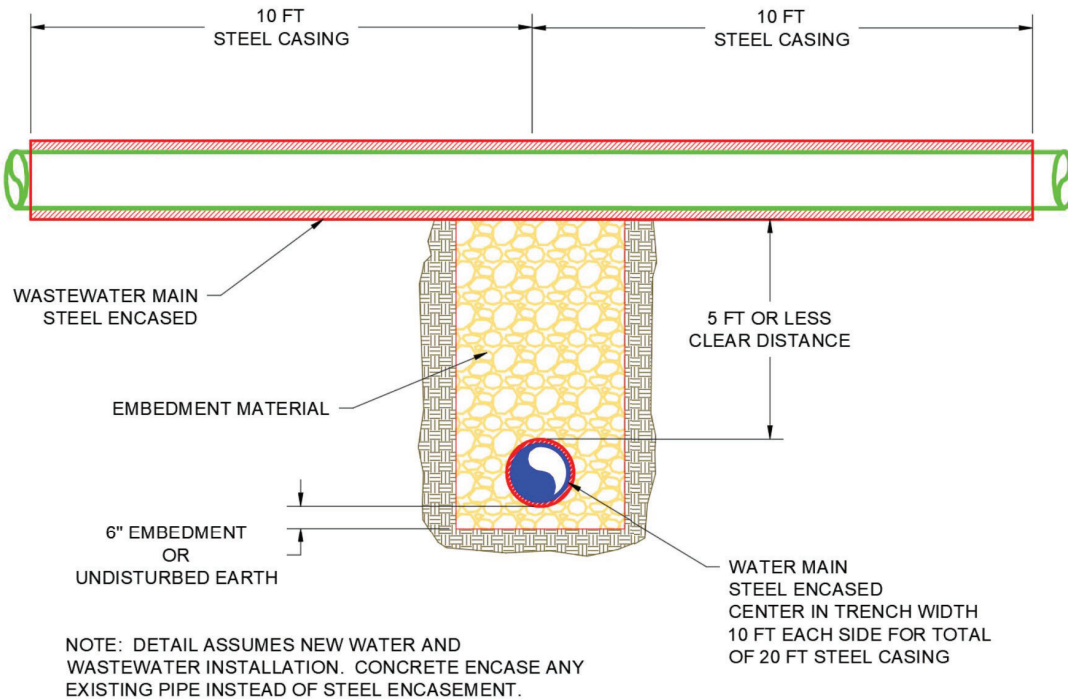

Figure 5- Wastewater Crossing Water
- 3.14. When a wastewater main crosses the top of a water main, steel encasement of both the water main and wastewater main is required for a minimum distance of ten (10) feet each side of crossing. If the wastewater main is an existing main, concrete encasement of the wastewater main is required. Embedment material or Type-A aggregate is required under the crossing pipe and above the casing of the water main. This requirement must be indicated and labeled on all design drawings submitted for review and approval. If there is more than five (5) feet vertical separation between the water and wastewater main, steel casing or additional embedment material or Type-A aggregate is not required. Distance must be measured from outside edges of pipes. If alignment of water is as such that twenty (20) feet of steel casing cannot be achieved a minimum of pipe diameter plus five (5) feet each side is required. See Figure 5 on the next page.